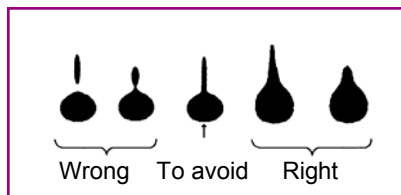

Figure 2
- Figure 2 shows how a properly adjusted break-off point should appear. Look only at the shape of the drops just under the break-off point.
This ink circuit can be installed in a IP54 console (figure 1) or in a IP65 console (figure 2).